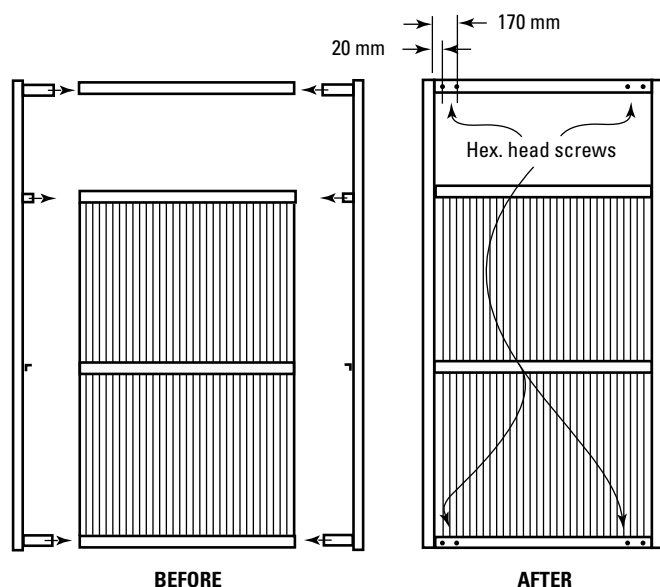
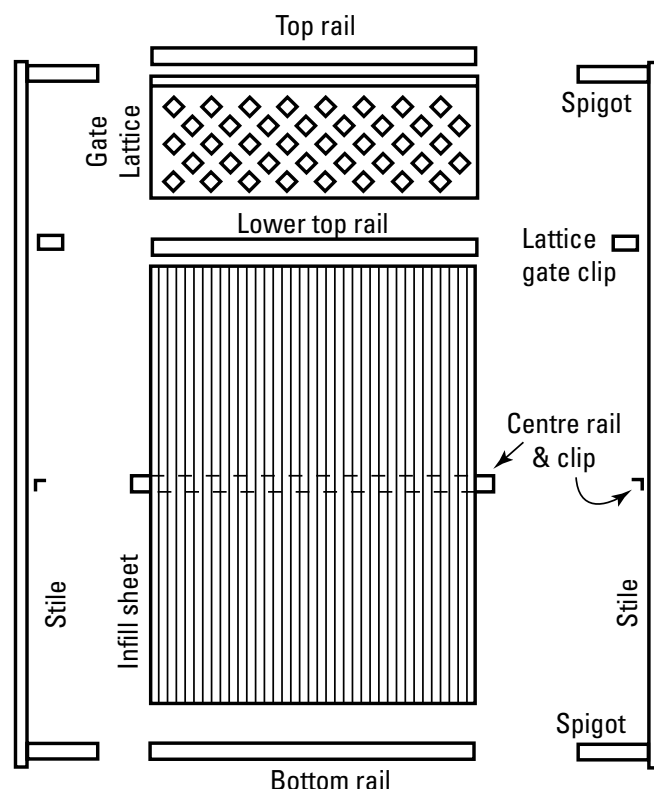

Figure 23.2
Figure 23.1
- 2) For extra-wide gates: overlap sheets to the desired width (Figure 23.1). Join the two sheets with hex. head screws #10–16x16 through the overlaps, at both top and bottom edges (Figure 23.2).
2. Lay out all the components (Figure 23.1) on some soft material to protect the COLORBOND steel finish.
7. Insert the spigots of both stiles into the top and bottom rails and locate the centre rail on its clips. If a lattice is used, ensure that the lower top rail fits neatly onto the lattice gate clips (Figure 23.2). Even up the sheets by bumping the ribs with the palm of your hand.
8. Hold both stiles firmly in place and drive one hex. head screw #10–16 x 16 in each of the four corners, 20mm from the inside edge of the stile (Figure 23.2).
9. Check squareness by measuring the gate's diagonals. Drive a second hex. head screw (#10–16x16) in each of the four corners, 170mm from the stile (Figure 23.2).